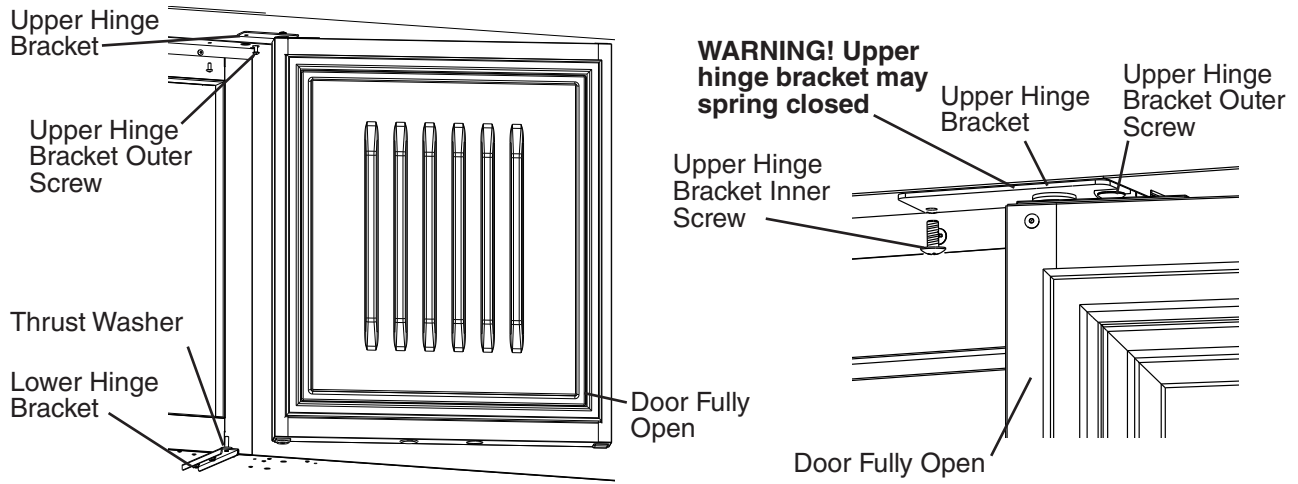

Fig. 27
- 17) Be sure the lower hinge bracket thrust washer is in place, then place the door on the lower hinge bracket in the fully open position. Slide the door upper hinge bracket outer slot onto the upper hinge bracket outer screw. See Fig. 27.